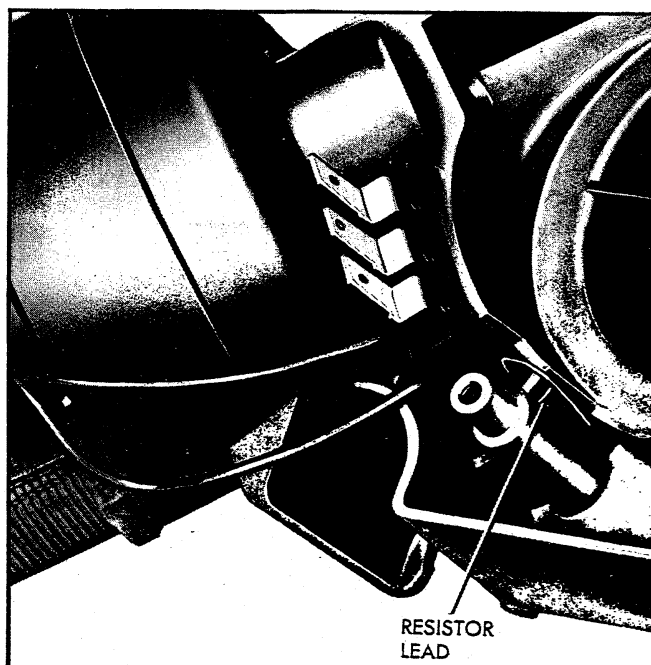

Fig. 83 - Terminal Board Resistor
2. Slide terminal board into wiper housing being careful to position the terminal board resistor lead as shown in Figure 83.